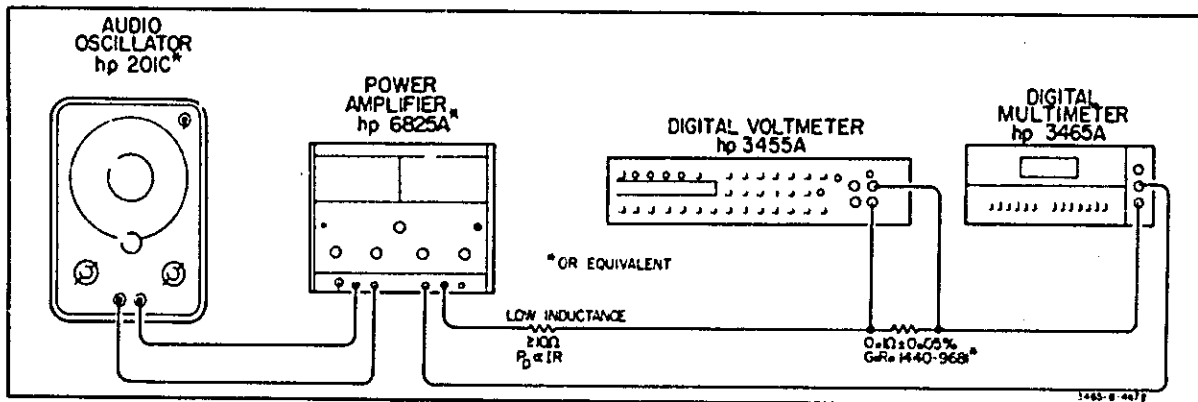

Figure 5-4. AC Ammeter Accuracy Test 200 mA and 2000 mA.
- Connect the equipment as shown in Figure 5-4.